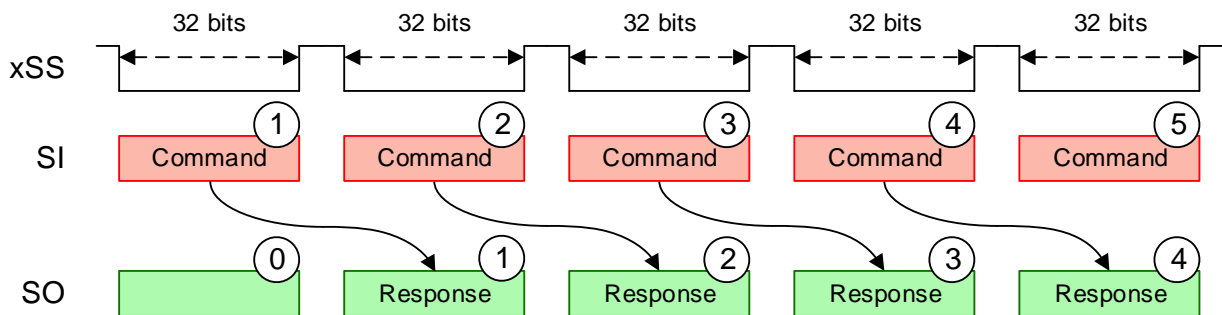

Figure 21: SPI Overlapped Packet Structure
SPI communication uses an overlapped packet structure where the response to a command is returned while the next command is being sent. Figure 21 shows this for a single-device application, where the host controls a single iC-TW28 slave (see Figure 20). See Bussing Multiple iC-TW28s on page 74 and Chaining Multiple iC-TW28s on page 75 for information on multiple-device applications.
SPI command and response packets are always 32 bits long and sent most-significant bit first. The host initiates communication with the iC-TW28 by driving Slave Select (xSS) low and then clocking a 32-bit command (1) to the Slave Input, SI. The serial clock (SCLK) signal is not shown in Figure 21. The host drives xSS high at the end of the command packet and the iC-TW28 executes the command.